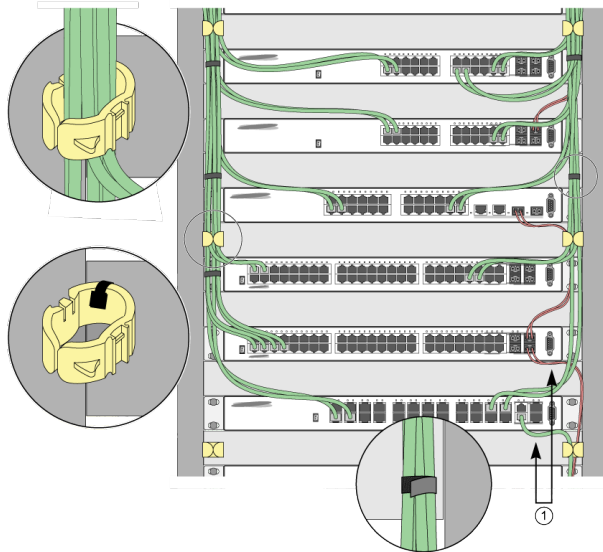

Figure 4: Properly Installed and Bundled Cable
- Provide enough slack, approximately 5 to 7.5 cm (2 to 3 in), to provide proper strain relief as shown in Figure 4 on page 33.
- When installing a patch panel using twisted pair wiring, untwist no more than 2.5 cm (1 in) of the cable to avoid radio frequency (RF) interference.